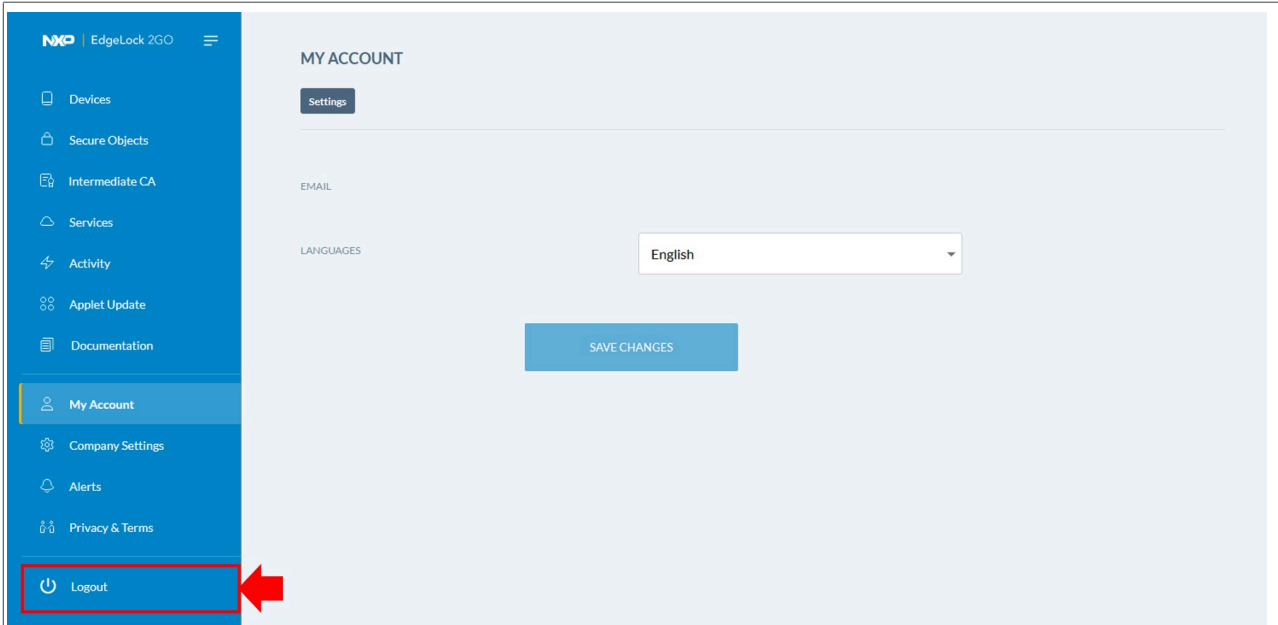

Figure 11. Logout from EdgeLock 2GO
6. You can logout at any time from EdgeLock 2GO by clicking on the *Logout* button in the left pane as shown in Figure 11.